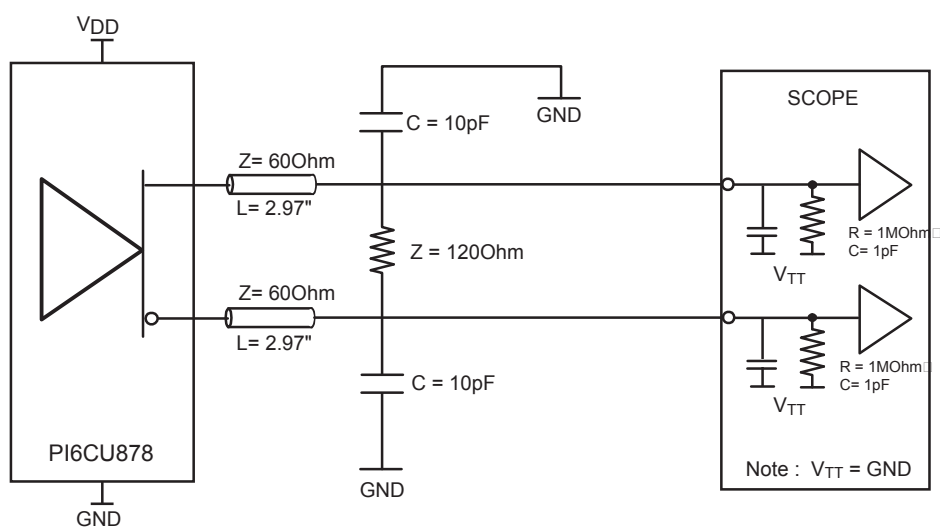
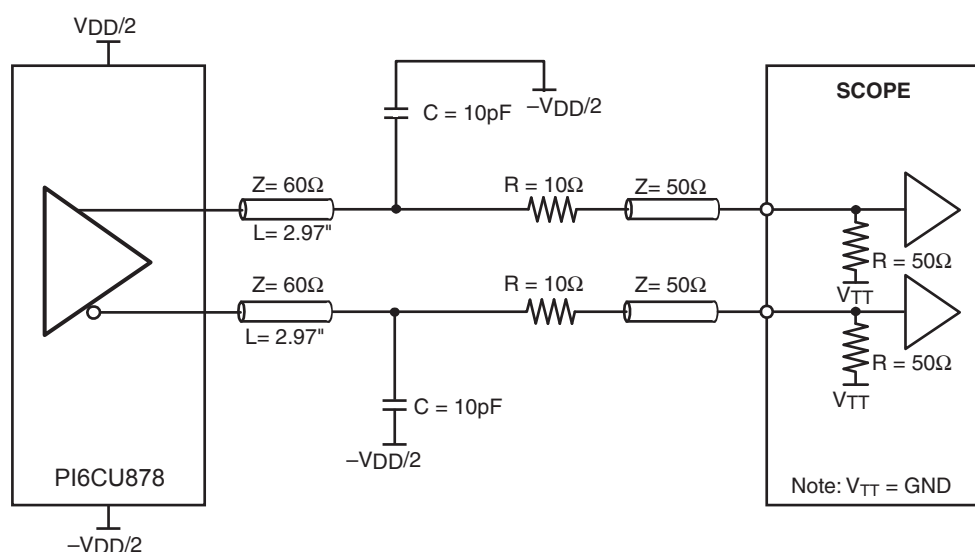

Figure 2. Output Load Test Circuit 1
Figure 3. Output Load Test Circuit 2
- There are two terminations that are used with the above ac tests. The load/board in Figure 2 is used to measure the input and output differential-pair cross-voltage only. The load/board in Figure 3 is used to measure all other tests. For consistency, equal length cables should be used.